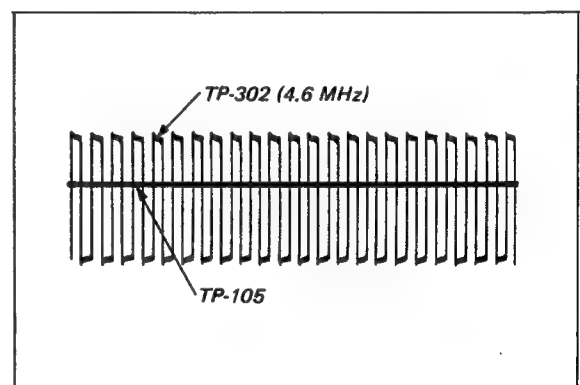

Fig. 5-2b. Waveforms in Steps 7 and 8
8. Note the position (dc voltage level) of the trace on CHANNEL 2 with reference to the trace on CHANNEL 1 (as obtained in Step 7). See Fig. 5-2b. Mark the scope graticule.